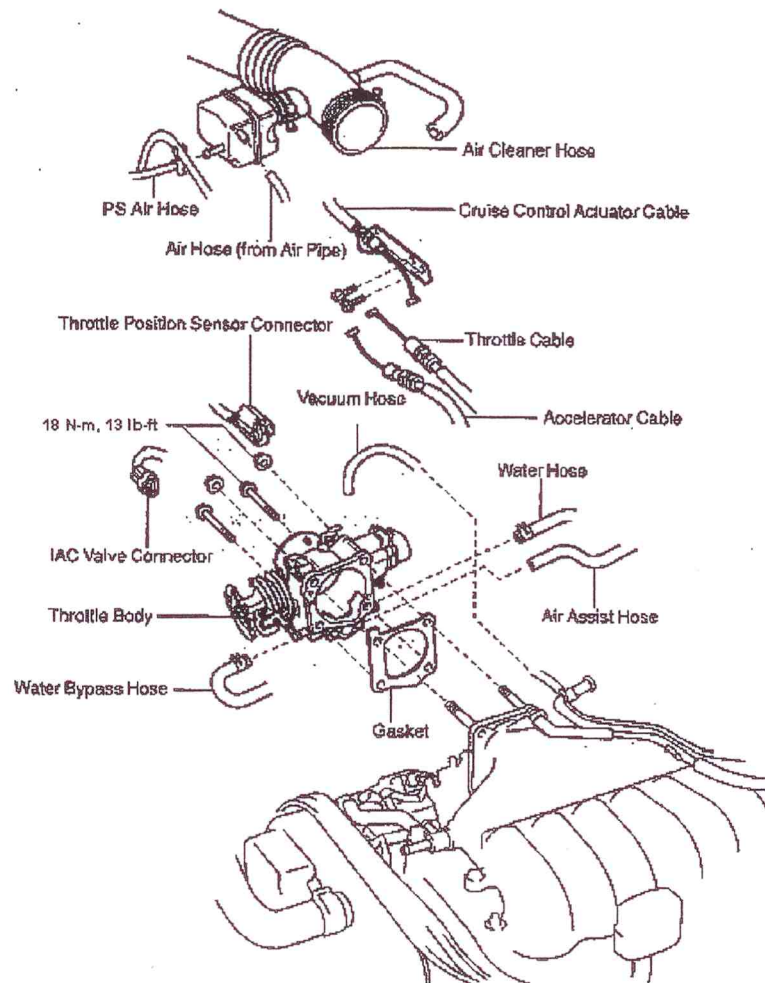

Figure 5
7. Remove the throttle position sensor connector. See Figure 5. You may need to remove the adjacent coil plug to avoid interference during disassembly. Remove the IAC valve connector.
8. Label and remove the vacuum lines from the throttle body. This will be important upon installation. See Figure 5 and 5a. Remove the nuts and bolts holding the throttle body to the factory intake manifold. Set the throttle body aside in the engine compartment. The coolant hoses which connect to the bottom of the throttle body need not be disconnected.